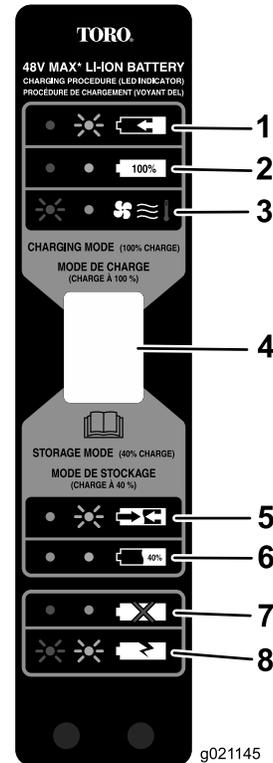

Figure 3
5. Refer to Figure 3 to interpret the LED indicators on the battery charger.
Use storage mode (Figure 3) when the battery will not be used for 1 month or longer.
- When the battery is ready for storage (Figure 3), remove the battery from the charger.